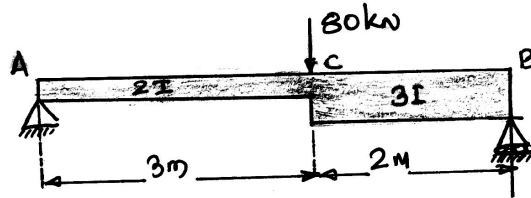

Fig.Q5(b)
b. Find the slope at the support and deflection under the point load, as shown in Fig Q5(b) by using conjugate beam method.